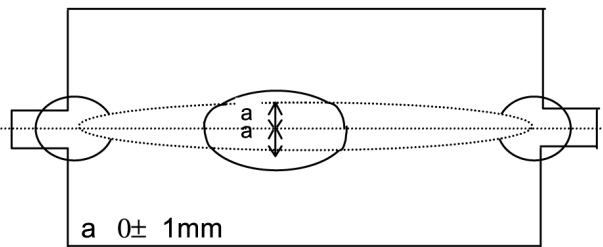

Fig . 2
5. Set 2 magnet of vertical position to up and down equally so that center part of CRT (Fig. 2)